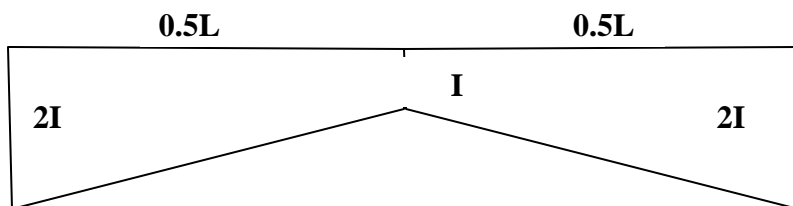

Fig. 2
- Q4.** Using general DOF notation, derive the element K_{33} for the non-prismatic member shown in Fig. 2. Assume the variation of I to take place linearly.